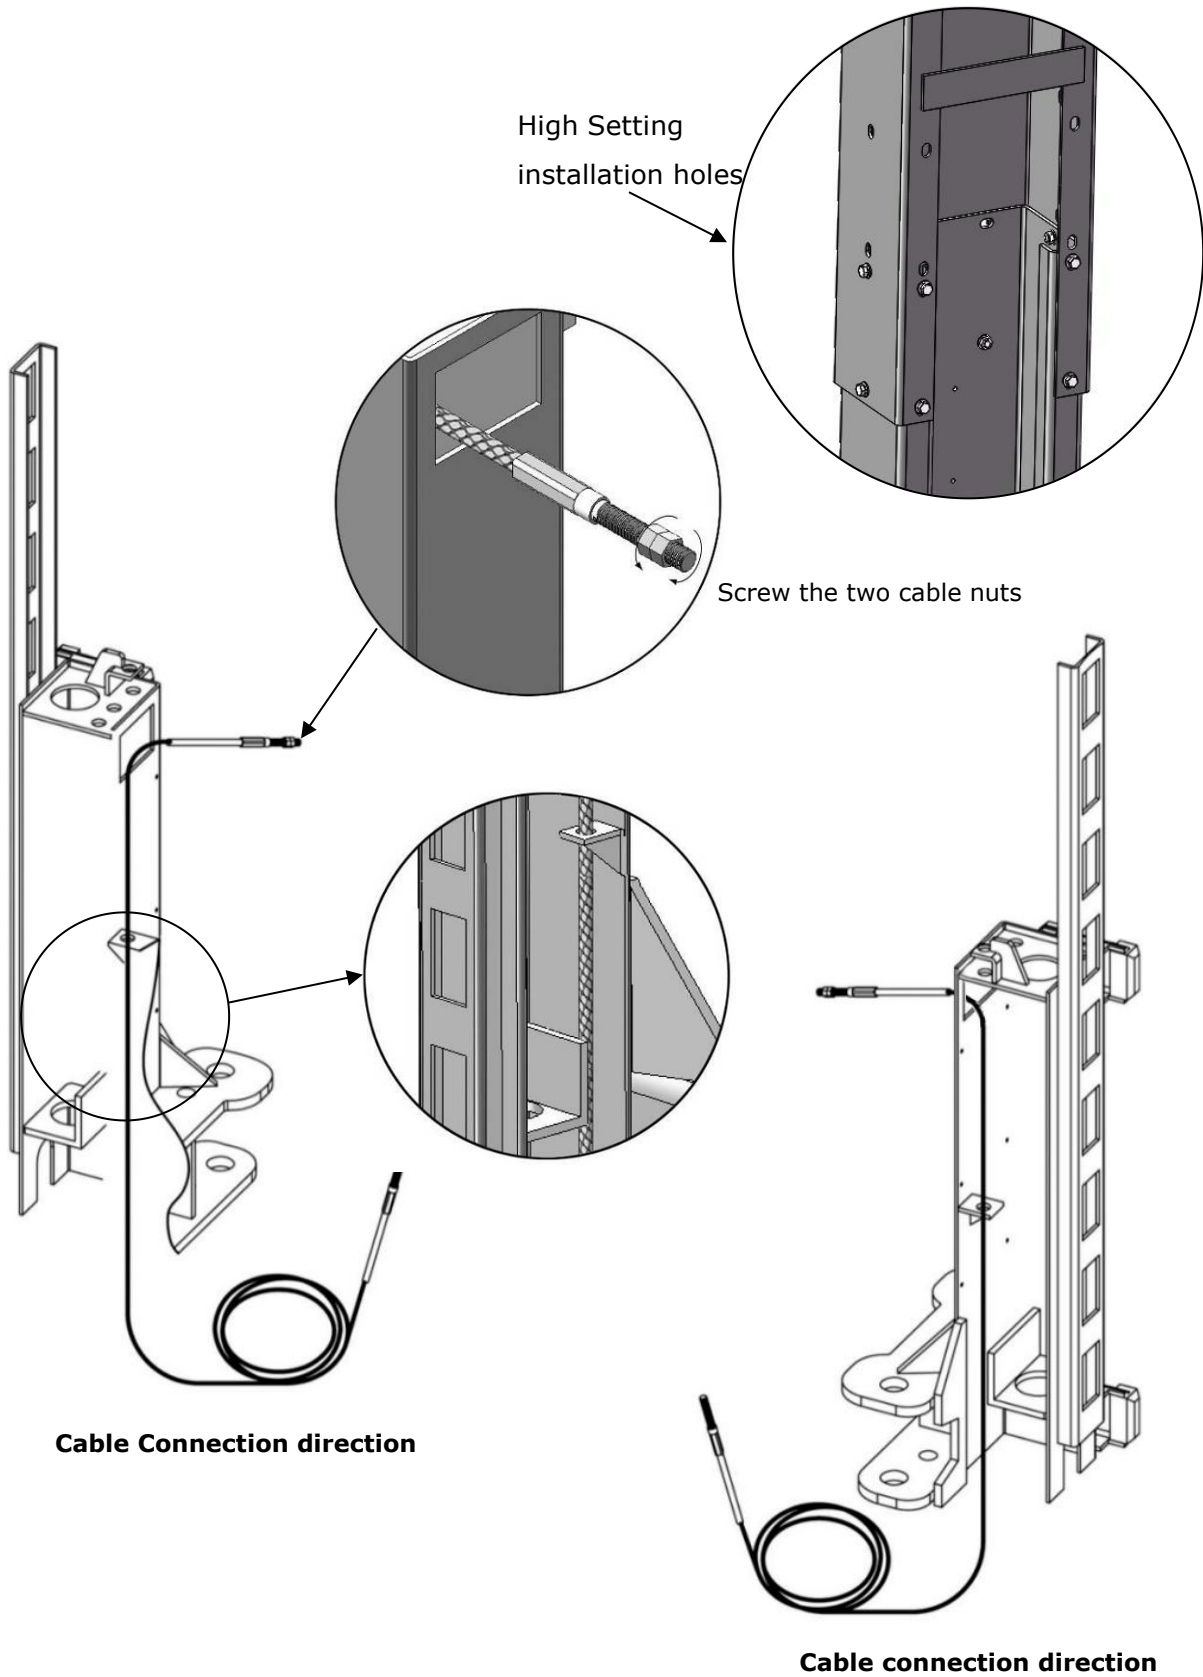

Fig. 27
2.1. Run the cable across from the bottom of the carriage and pull it out from the hole of carriage, then tighten two cable nuts. (See Fig. 27).